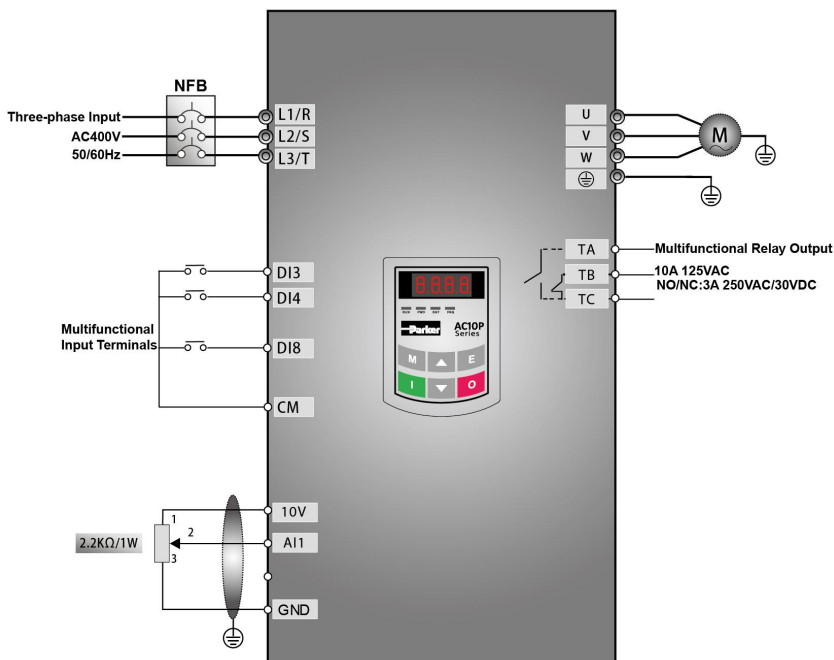

Figure 5-3 Wiring Diagram 3
- (1) Connect the wires in accordance with Figure 5-3. After having checked the wiring successfully, switch on the air switch, and power on the inverter. Note: 2K~5K potentiometer may be adopted for setting external analog signals. For the cases with higher requirements for precision, please adopt precise multiturn potentiometer, and adopt shielded wire for the wire connection, with near end of the shielding layer grounded reliably.